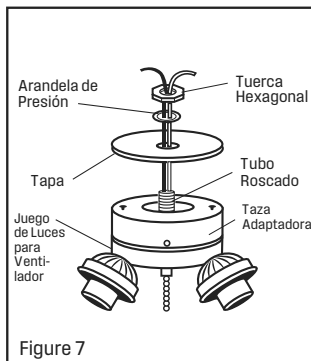

Figure 7
3. Attach the cover to the light kit threaded tube by first feeding the light kit wires (black and white) through the hole in the cover and then screwing the cover onto the threaded tube (See figure 7). Be sure it is tight enough to prevent the light kit from vibrating loose.
4. Place the lock washer and hex nut over the light kit wires onto the threaded tube, and tighten the screw nut. (See figure 7).